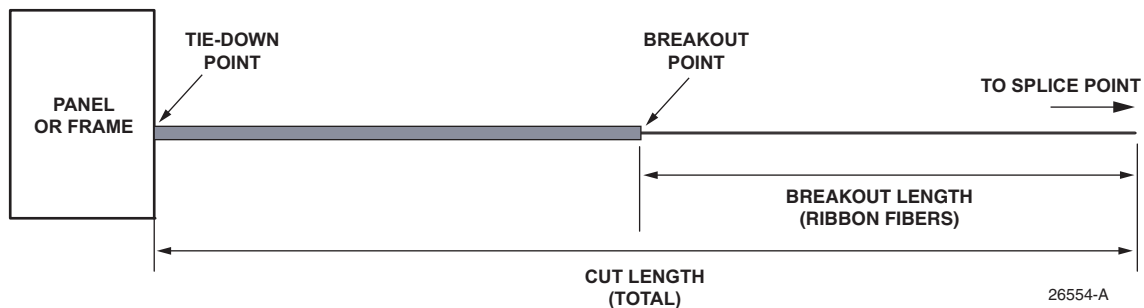

Figure 21. Fiber Ribbon Lengths
3. Starting at the stub end of the cable, measure backwards (right-to-left, see Figure 21) and mark the breakout length (refer to Table 3). Remove outer jacket to expose the ribbon fibers. (Remove any moisture blocking compound from OSP fibers.)